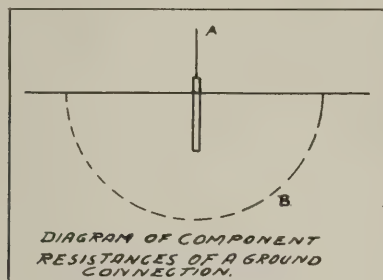

Fig. 1
A ground may be considered as a metallic conductor in a hemispherical mass of earth, as shown in Fig. 1, the radius of which will depend upon soil conditions. Assume that the outside or boundary of this hemisphere is earth at zero resistance and zero potential. The resistance of the ground connection is the resistance offered to the flow of current from A to B. This resistance consists of four parts, viz.: (1) that of the wire or connection to the ground electrode; (2) the resistance of the electrode; (3) the contact resistance between the electrode and earth, and (4) the resistance of the soil in the immediate vicinity. Unless a long wire is used and unless the electrode is of great length and small cross section, the first two parts of the total resistance will be negligible. Furthermore, the contact resistance between metal and earth, as determined by tests made at the Bureau of Standards, can also be neglected as far as practical purposes are concerned—a fact which has not been generally appreciated. The principal